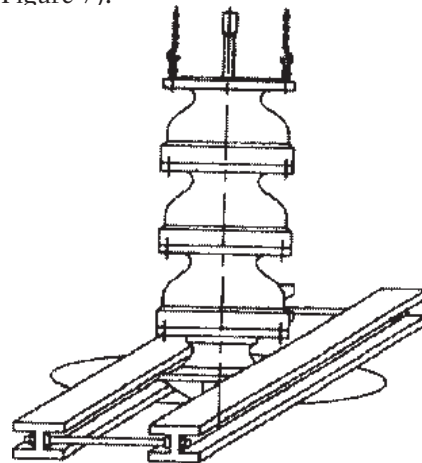

Figure 7
2. Place two I-beam supports across the base plate opening, strong enough to safely support the weight of the entire pump assembly. These I-beams should be connected by threaded rods and nuts so as to clamp them firmly together to support the pump. (See Figure 7).
6. Attach a sling to the elevator clamps, eyebolts, or lifting bail and hoist it into position over the foundation opening. (See Figure 7).